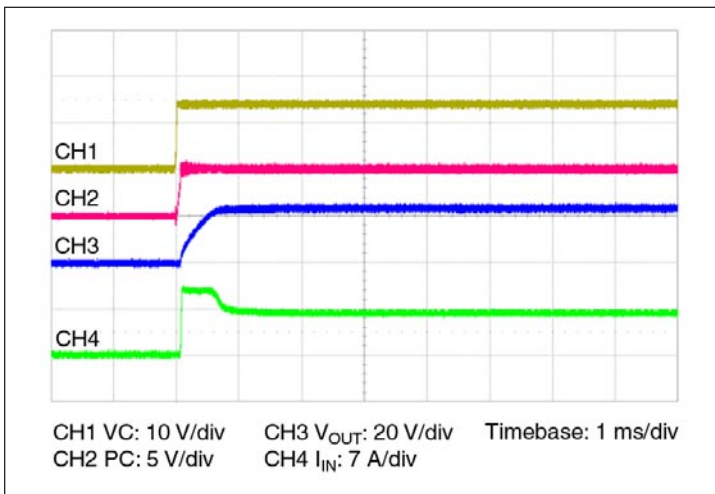

Figure 11 — Start up from application of VC;
- **Stand-alone operation (VC applied after V_{IN}):** In this case the VTM output will begin to rise upon the application of the VC voltage (See Figure 11). The Adaptive Soft Start Circuit (See Section 11) may vary the output rate of rise in order to limit the inrush current to its maximum level. When starting into high capacitance, or a short, the output current will be limited for a maximum of 1200 µsec. After this period, the Adaptive Soft Start Circuit will time out and the VTM module may shut down. No restart will be attempted until VC is re-applied or PC is toggled. The maximum output capacitance is limited to 375 µF in this mode of operation to ensure a successful start.